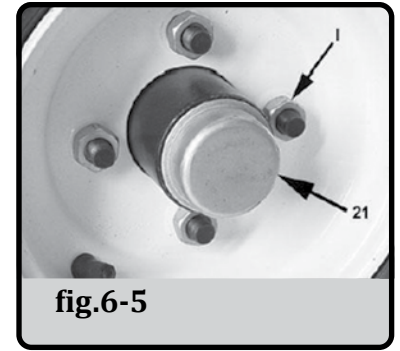

fig.6-5
11. Install hub dustcap (fig.6-5, 21) firmly on hub with rubber mallet.